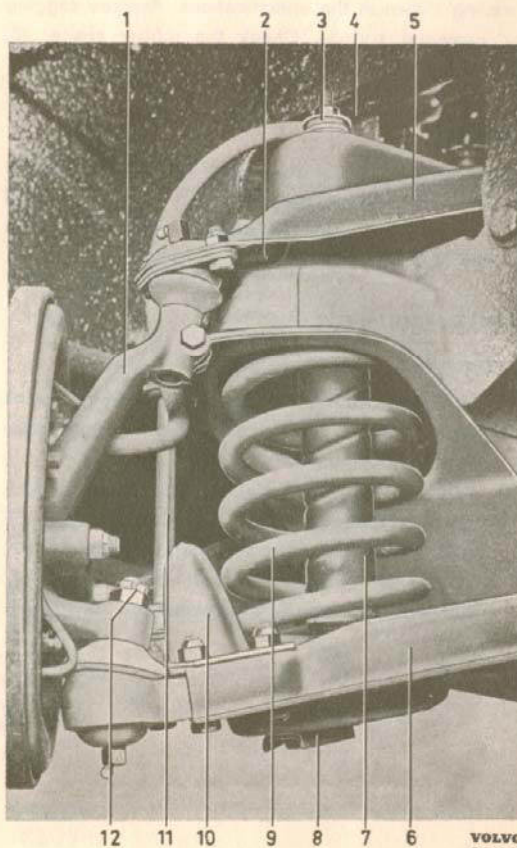
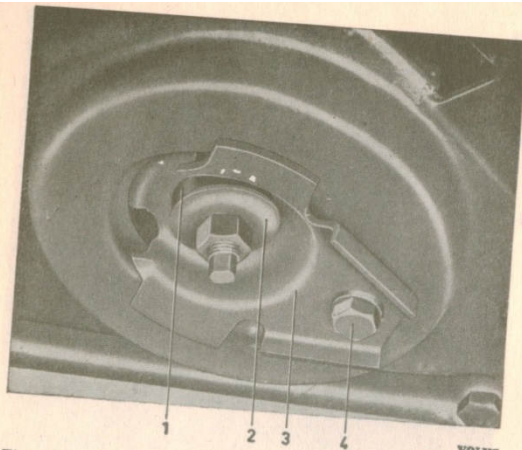

Fig. 9-1. Front spring and shock absorber
Fig. 9-2. Lower attachment for front shock absorber
4. Remove the shock absorber nuts and washers and take off the outer rubber bushings (3, Fig. 9-1 and 1, Fig. 9-2). Remove the bolts (4, Fig. 9-2) for the attaching plate (3) and pull this together with the shock absorber downwards.
6. Disconnect the stabilizer bar from the lower control arm. Remove the nut (12, Fig. 9-1) for the lower ball joint.
1. Remove the upper attaching nut, the washer (4, Fig. 9-1) and rubber bushing (3).
2. Remove the lower attaching nut, washers, and rubber bushing. See Fig. 9-2.
3. Remove the bolt (4, Fig. 9-2) for the attaching plate (3) in the lower control arm and pull out the attaching plate and shock absorber.